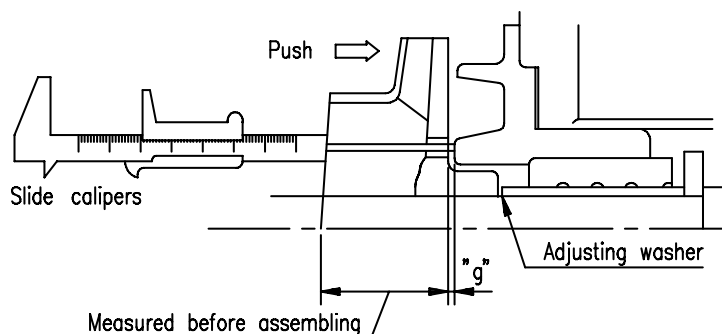

Fig. 7-22. Axial Gap of Impeller
- (c) Adjustment of axial gap of impeller (Pump in Fig. 7-20. does not need the adjustment) Adjust the gap "g" shown in Fig. 7-22. with adjusting washer to 0.5 ~ 0.9mm. Measurement of gap "g" shall be done as shown below.